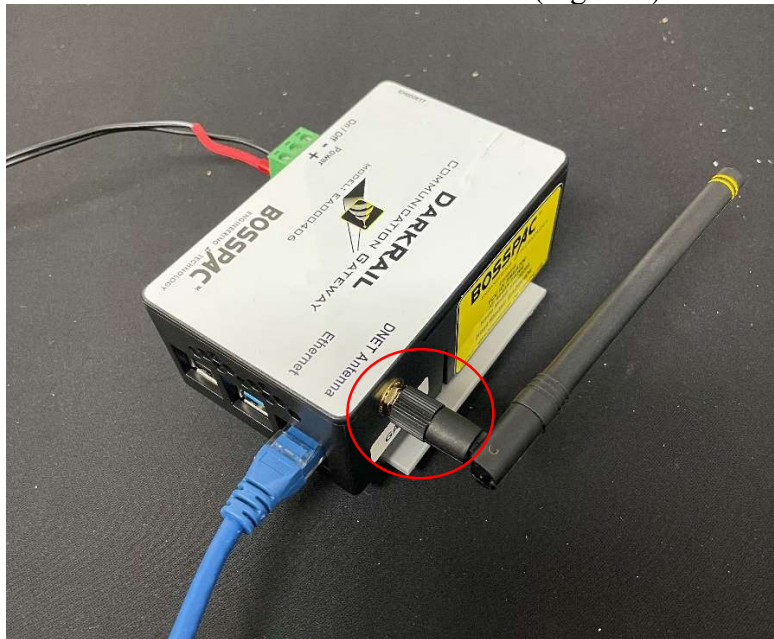

Figure 3
- Connect to the 915 MHz Antenna to Border Router (Figure 3)